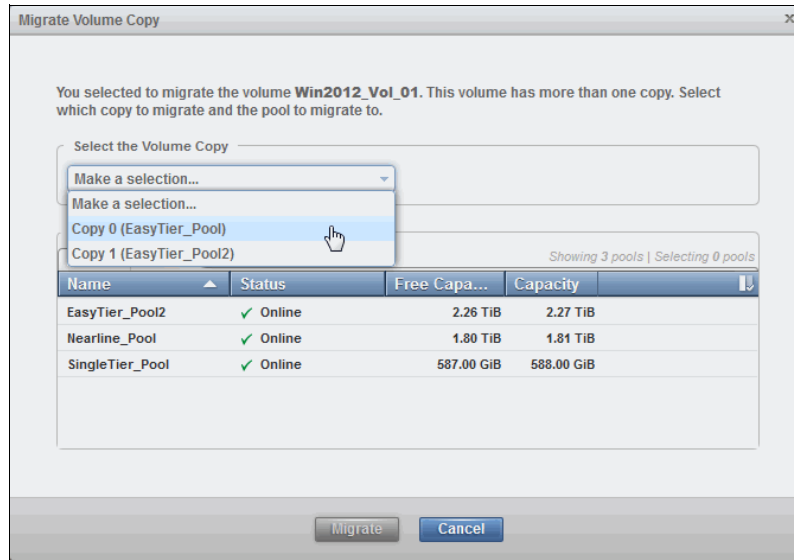

Figure 8-50 Migrate Volume Copy
2. If the volume consists of more than one copy, you are asked which copy you want to migrate to another Storage Pool, as shown in Figure 8-50. If the selected volume consists of only one copy, this option does not display.